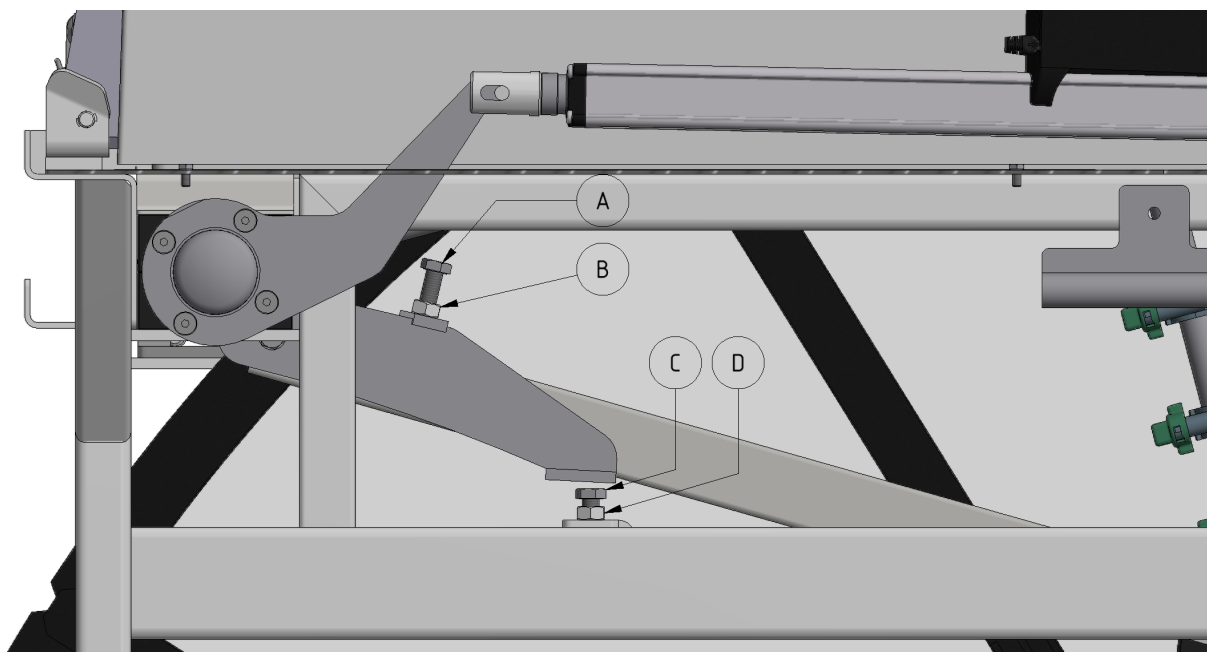

Figure 6.16 Screw and nut for adjustment of backwash pipe position and backwash pipe safety stop.
1. Turn the main power switch to the OFF (0) position and lock with a padlock.
2. Undo the nut (B), see Figure 6.16.
3. Adjust the position of the backwash pipe using the screw (A).